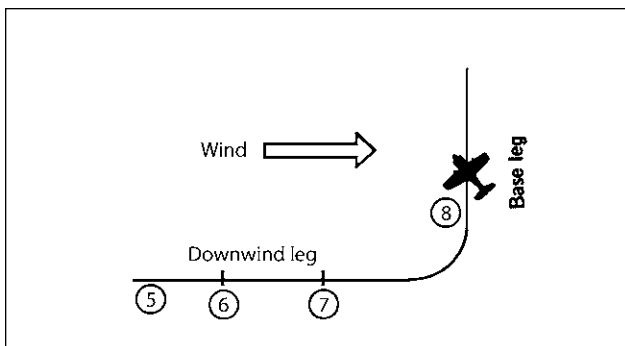
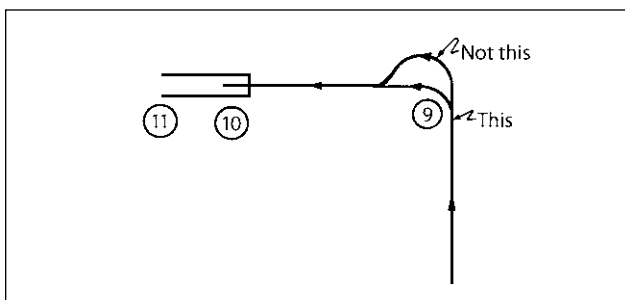

Figure 13-17. Positions on the downwind and base leg.
Figure 13-18. The turn onto the final leg and the last part of the approach.
5. Climb to 1,000 feet. Keep the plane flying parallel to the runway (Figure 13-17).
8. Make a slightly more than 90° turn to the left. Continue to reduce the power as necessary to control the approach path. One problem students have is making this turn too shallow, so the airplane is nearly over to the final leg before the first 90° of turn is completed. This would then require a steep 90° turn onto final, at a low altitude, to line up with the runway center line—a disconcerting and possibly dangerous practice. This is more likely to happen in a high-wing trainer because the down-wing may keep the runway hidden throughout the turn onto the base leg. You may not realize that you are moving so close to the final leg. This is particularly a problem if the airplane on the base leg has a tailwind component as shown in Figure 13-31. Most instructors prefer that the turn at point 8 (Figure 13-17) be slightly steeper than the one at point 9 (Figure 13-18) because (a) the steeper turn is done at the higher altitude, and (b) the turn will be completed soon enough so that the wings can be leveled for a straight base leg (and a good look at the runway). More about this later in the chapter.